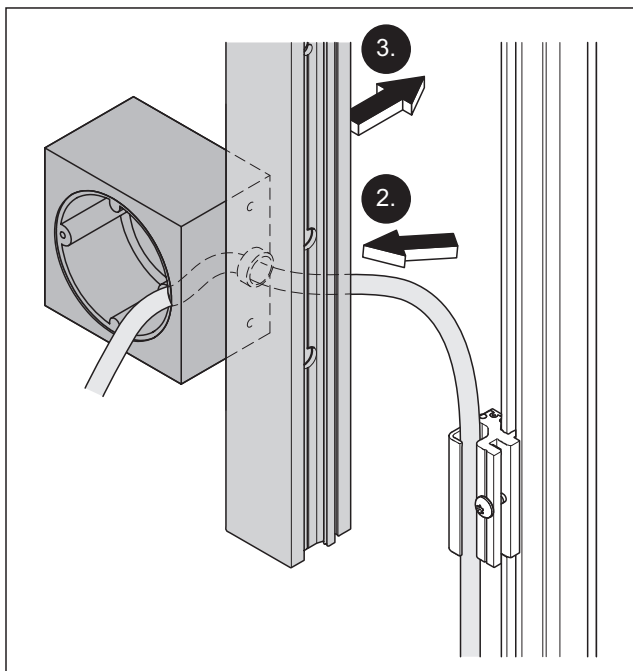

Abb. 14 Insert the cable through the cover profile into the electromodule and secure the cover profile for the door frame
2. Route the cable through the cover profile for the door frame into the electromodule (Abb. 14).